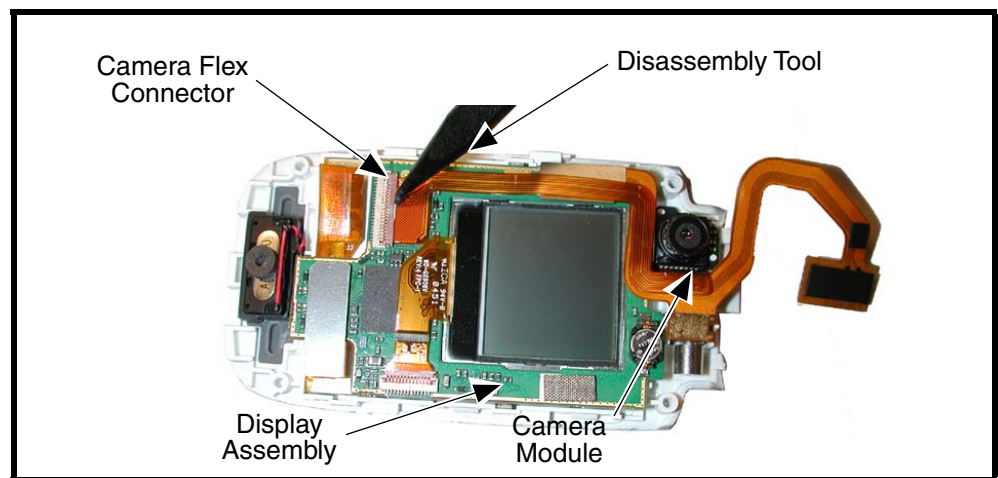

Figure 16. Camera Assembly Removal
3. Carefully lift the camera assembly and flex out of the display assembly (see Figure 16).